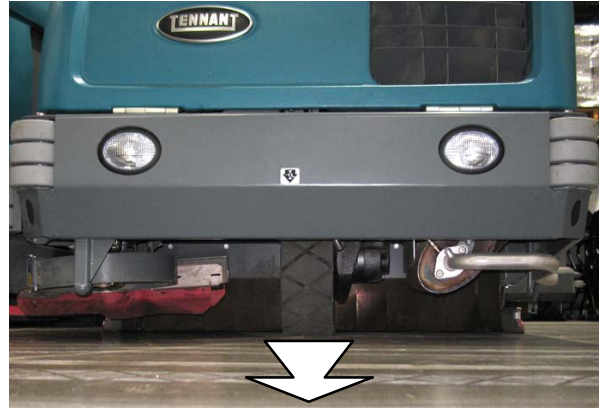

FIG. 3
16. Confirm the front wheel is pointed out straight from the front of the machine. (Fig. 3)